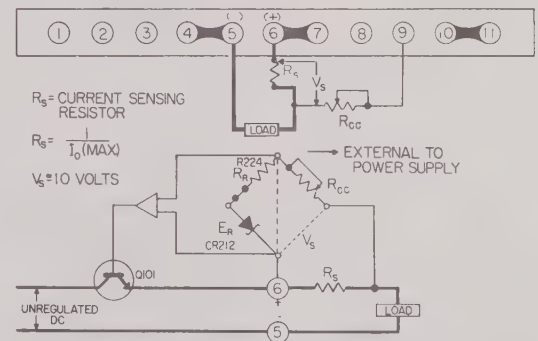

FIG. 3-7 CONNECTIONS FOR CONSTANT CURRENT OPERATION
- In the constant current operating mode, the voltage comparison bridge is interconnected with an external current sensing resistor, R_s , and a current control, R_{cc} (as shown in Fig. 3-7), to maintain a constant voltage drop across R_s . In this way, an adjustable constant load current is obtained. Characteristic of the constant current supply is the ability to change its output voltage automatically in order to maintain a constant current through a range of possible load resistances. The range of output voltage that the supply can deliver and simultaneously maintain constant current, is referred to as the "COMPLIANCE VOLTAGE".
3-26 Procedure (Refer to Fig. 3-7)